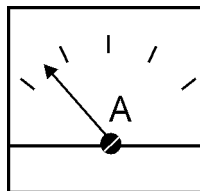

Figure 64. Ammeter (No load)
9. The ammeter (Figure 64) will indicate zero amps with no load applied. When a load is applied, this meter will indicate the amount of current that the load is drawing from the generator's alternator.